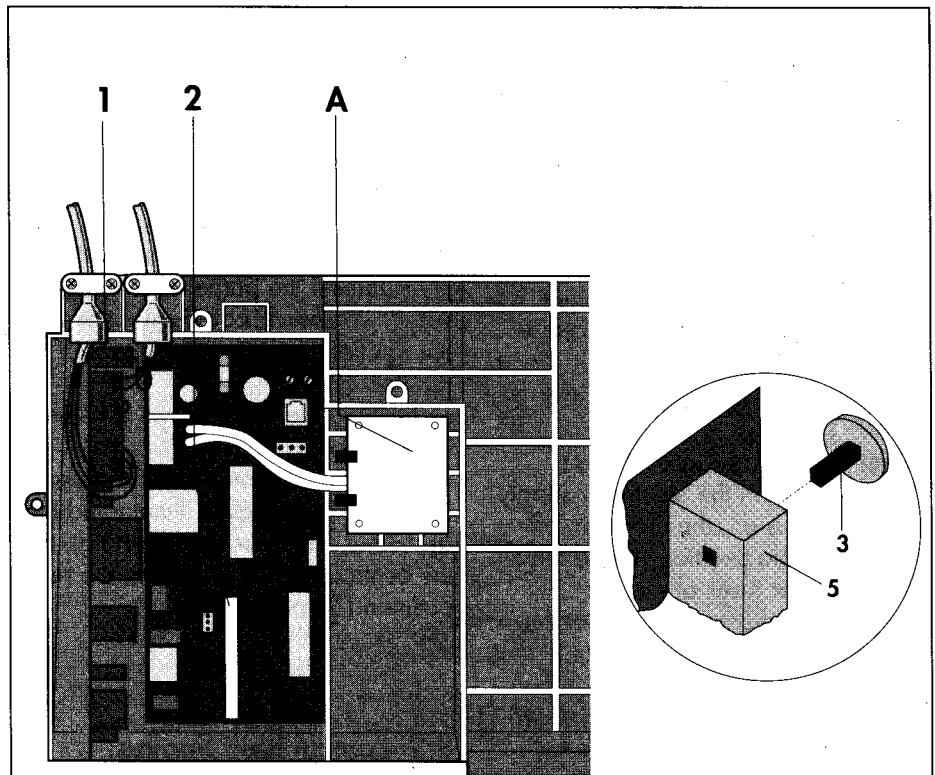

fig. 69
- Unplug ribbon cable from control board (2, fig. 69).
- Unplug all leads from the both boards (1, fig. 69).
Note: When refitting the control board, ensure that the user control spindles (3, fig. 69) are aligned with the potentiometer and control switch holes (5, fig. 69) and that the locating rib of the potentiometer/switch correctly engages in the groove of the control knob spindle. Also ensure that when refitting the main switchboard the on/off control knob spindle (3, fig. 69) engages correctly into the on/off switch (5, fig. 69) mounted on the board.